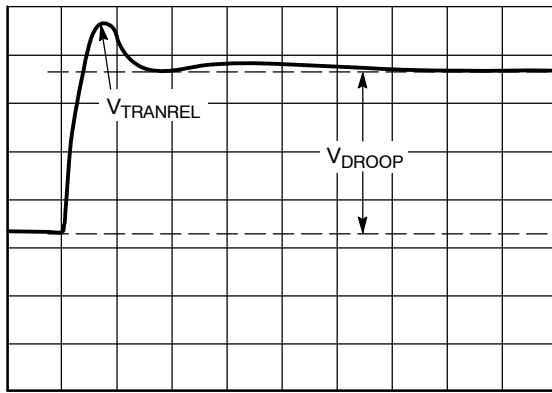

Figure 39. Transient Setting Waveform, Load Release
3. For load release (see Figure 39), if V_{TRANREL} is larger than the value specified by IMVP-6.5, a greater percentage of output capacitance is needed. Either increase the capacitance directly or decrease the inductor values. (If inductors are changed, however, it will be necessary to redesign the circuit using the information from the spreadsheet and to repeat all tuning guide procedures).